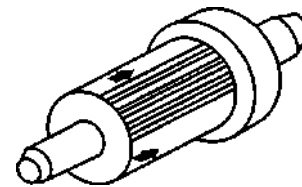

Figure 33. In-Line Fuel Filter
2. Replace the engine in-line fuel filter (Figure 33) every 200 hours. When replacing filter pay close attention to the orientation of the arrows.